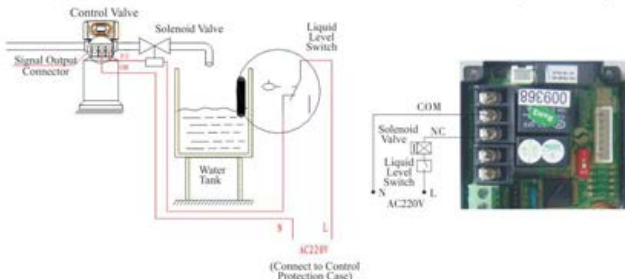

Figure3-1 Wiring of Solenoid Valve on Outlet
①Solenoid Valve on Outlet Controls Water Level in Brine Tank.
**Instruction:** If system requires no hard water flowing from outlet in regeneration cycle ( Mainly for no hard water flow out when valve is switching or valve in backwash or brine drawing status), a solenoid valve could be installed on outlet, the wiring refers to Figure 3-1.